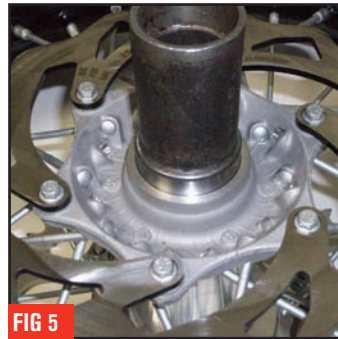

FIG 5
- 7 Clean areas where bearings will be inserted back into hub and apply a thin coat of grease around the machined hub surface. Tap the bearing on the snap ring side of the hub into the machined hub surface, making sure to keep it square with the hub as it goes in and only tap on the outer race of the bearing. Once you get the bearing flush with the outer edge of the hub, use a socket or piece of pipe that is just smaller than the outside diameter of the bearing to finish tapping the bearing into the hub. (Fig. 5)